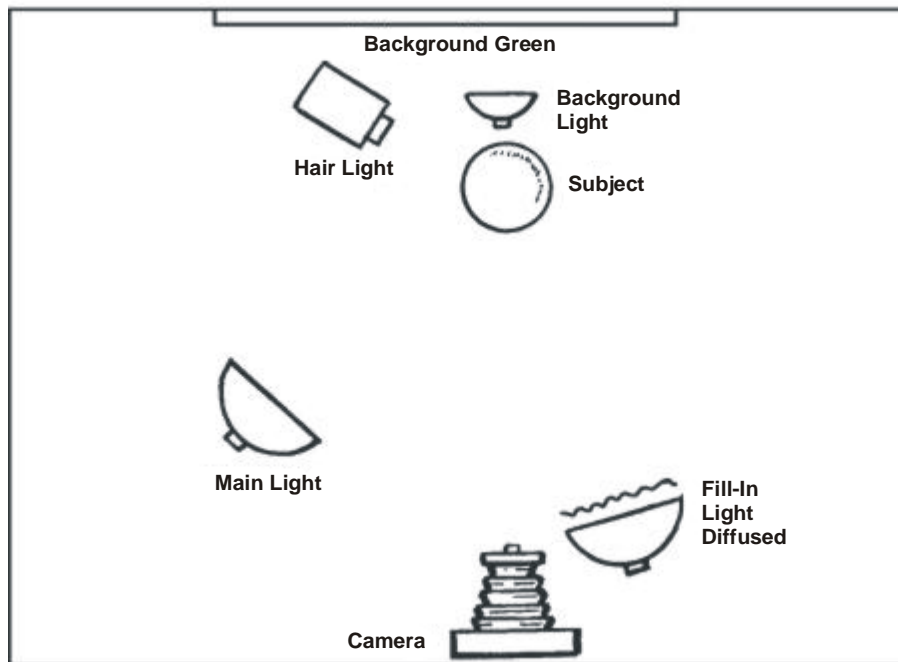

Figure J-1. Portraiture Lighting
(1) Photoflood lamps are preferable for studio and formal portraits because you can light the lamps while you are arranging and posing the subject. Since you can see exactly how the photoflood lamps will illuminate the subject, you don't have to guess about the lighting effect in the finished photograph. The watts rating of a flood lamp is a rough indication of the light output. Since light output decreases with usage, you should use an exposure meter to determine the amount of exposure.
(2) An advantage of electronic flash is that there is less tendency to burn out the highlights, while retention of shadow detail is better than with conventional flash. The soft, cool light is excellent for portraiture and affords a minimum of discomfort to the subject.
d. The single most important principle you should apply to achieve correct lighting is that there should be only one dominant light source. All other lights should be subordinate to it. To do otherwise will cause ugly and unnatural shadows. There are five principal lights: main, fill-in, hair, backlight, and background. See Figure J-1.
(2) Fill-in light. Use this light (Figure J-1) to lower the lighting ratio (fill in the shadows created by the main light), and it should not create any shadows itself. Generally, the fill-in light is diffused, used close to the camera at lens height, and placed on the side of the camera opposite that of the main light.
(3) Hair light. This small lighting unit (Figure J-1) is almost a necessity. It is generally used on a boom from above and behind the subject. It not only adds detail to the reproduction of the hair but also provides a useful means of subject background separation. In any case, the hair light should not be allowed to spill over onto the face or ears, since this may cause small but distracting highlights and refute the basic principle of a single light source. To place the hair light properly, bring it forward gradually until its illumination just strikes the forehead or the cheeks as the case may be, then move it back until the highlight on the skin disappears.
(4) Backlight. A spotlight aimed at the back of the subject to outline the shoulders and separate the subject from the background.
(5) Background light. The background light (Figure J-1) is a small lamp on a short stand placed close behind the subject or about midway between the subject and the background. This lamp lights the background and provides good tonal separation between the subject and the background.